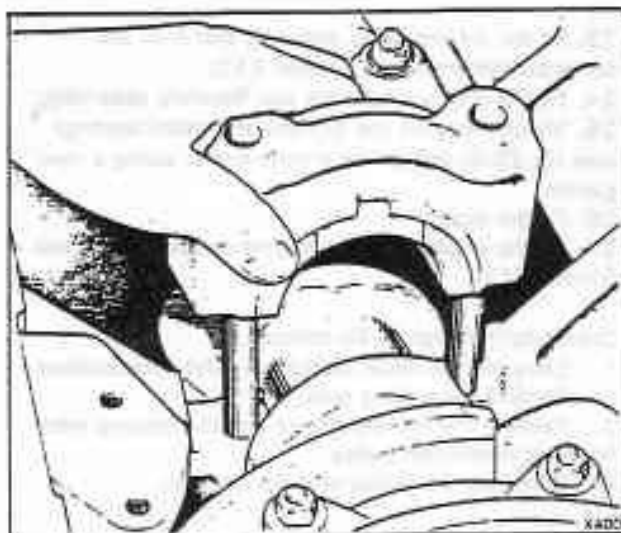

Fig. E5-7 Fitting the centre main bearing cap
5. Fit the main bearing caps and shells together with the two lower thrust washers for the centre main bearing (see fig. E5-7). When fitting the bearing caps it may be necessary to tap them lightly into position. If this is done ensure that the bearing shells are not